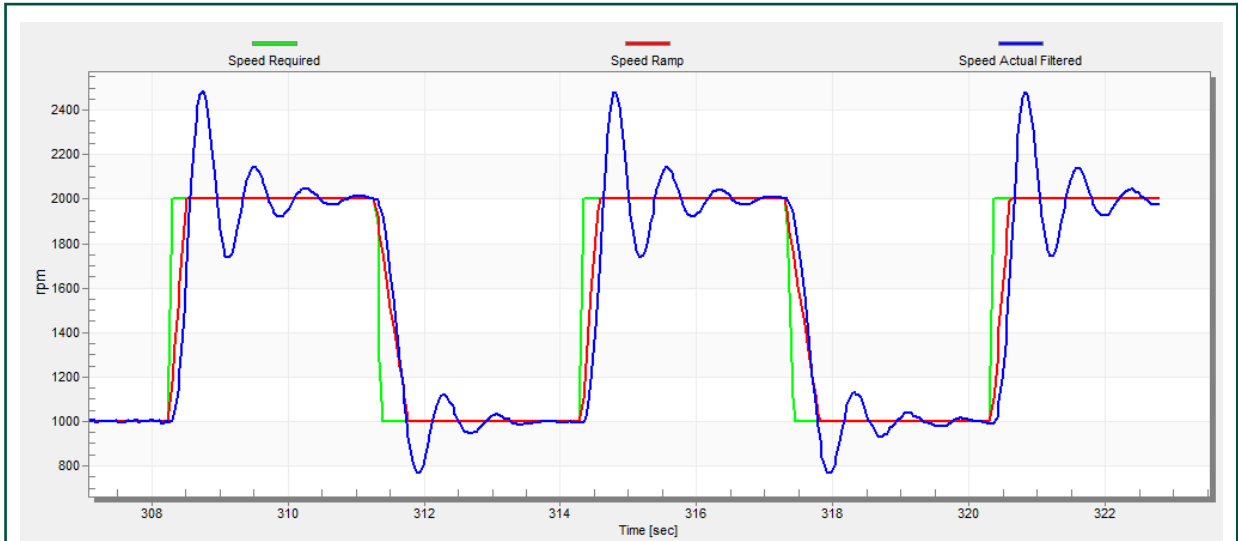

Figure 56. Speed controller response—SL_Kp value is low, Speed Actual Filtered greatly overshoots
- The “SL_Kp” value is low, the “Speed Actual Filtered” greatly overshoots, and the long settling time is unwanted (see Figure 56).